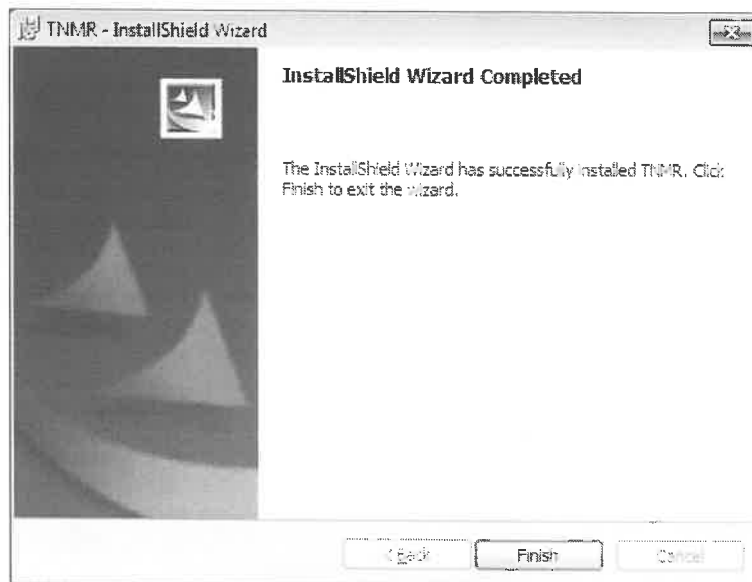

Figure 19
19. Click Finish when TNMR Installation is complete. (See Figure 19)